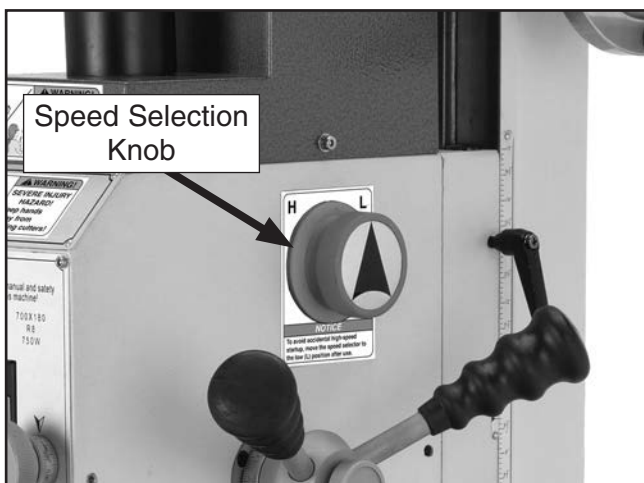

Figure 25. Speed selector knob.
2. Select the appropriate speed range using the speed range selector knob (**Figure 25**). "H" represents the high speed range, which is capable of spindle speeds from 100–2250 RPM. "L" represents the low range, which is capable of spindle speeds from 50–1125 RPM.